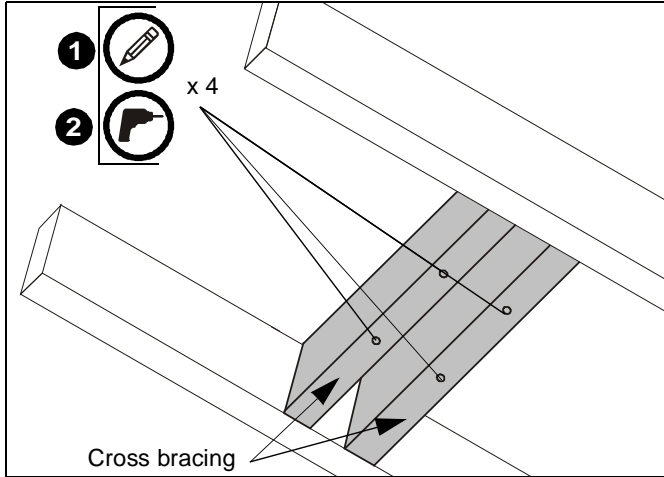

Figure 4
- Using ceiling plate (A) as a template, mark locations of four pilot holes (See Figure 4). Ensure the marks are in the center of wood joists.
- Drill 7/32" diameter pilot holes into wood stud cross bracing. (See Figure 4) Ensure pilot holes are straight.